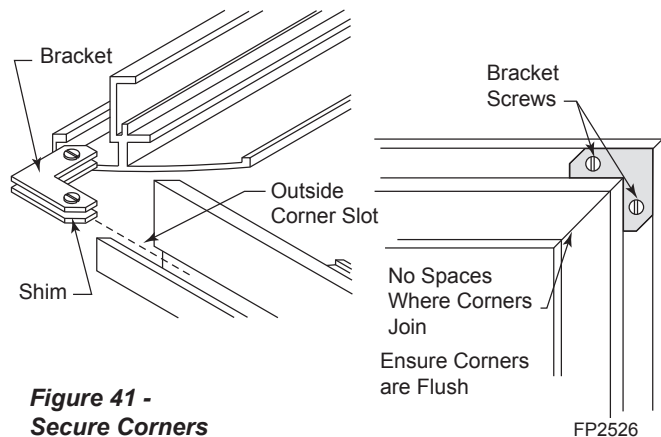

Figure 41 -
- Slide one (1) 90° angled bracket (with attached screws) and one (1) 90° angled shim in the outside corner slot where the top and side trims meet. *Figure 41*
- Hold the corners together securely. Tighten screws on bracket with flat head screwdriver. Make sure the corners are flush and there are no spaces. **Do not over tighten screws.** *Figure 41*